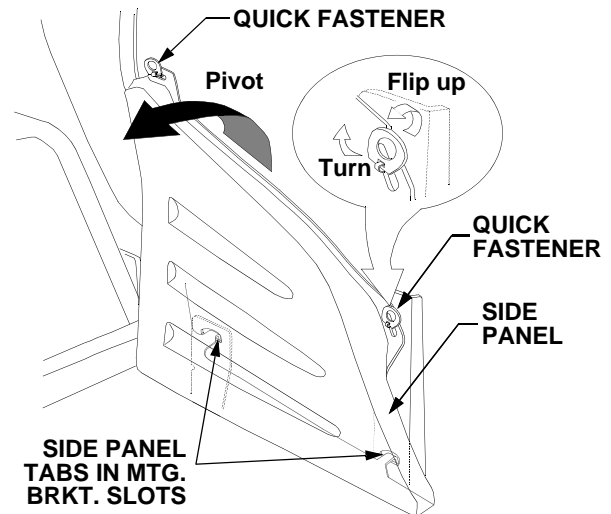

Figure 35
- Flip the tabs of the two quick release fasteners up and turn to align with the slots in the side panel. See Figure 35.
- Pivot the top of the side panel until the two tabs at the bottom of the panel can be withdrawn from the slots of the side panel mounting brackets; then remove the side panel. See Figure 35.
- Insert the two side panel tabs into the slots of the side panel mounting brackets. See Figure 35.